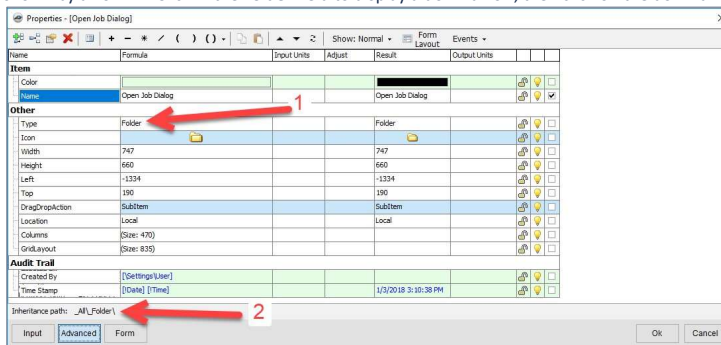

Figure 5
5. This opens the Advanced **Properties** screen in Figure 5. Note that the **Type** of the Open Job Dialog is "**Folder**" (see #1 in Figure 1.2-5). Note that the "Inheritance path is shown by arrow #2. Click in the **Folder** field to display a down arrow, then click on the down arrow.